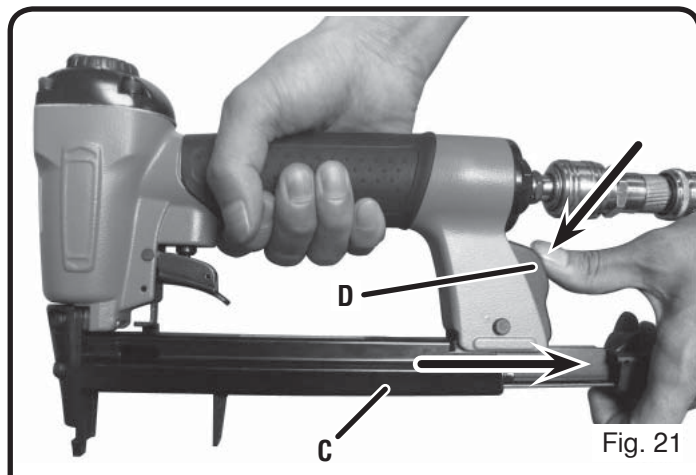

Fig. 21
- 2) Press the click lever (D) and pull the magazine (C) to open position (Fig. 21).
- 3) Release the magazine (C) from the locked position, pressing lever (D) (Fig. 21).
- 4) Slide the magazine (C) downwards (Fig. 21).